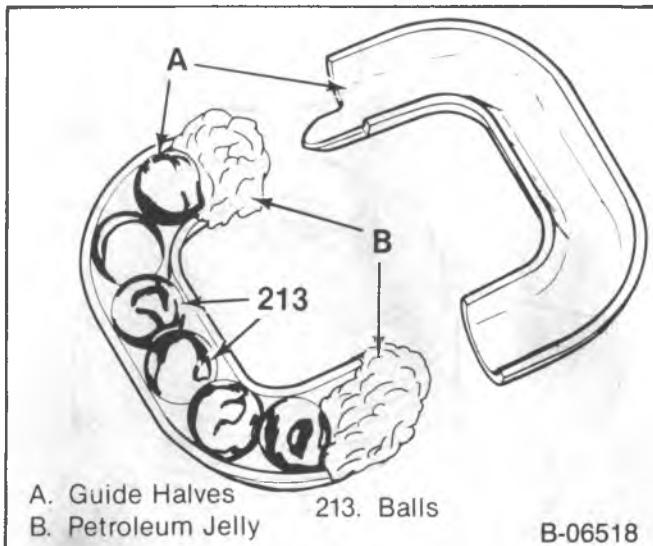

Figure 13—Retaining the Balls in the Ball Guide
2. Balls (213), alternating by color, in the ball guide (212) (figure 13).